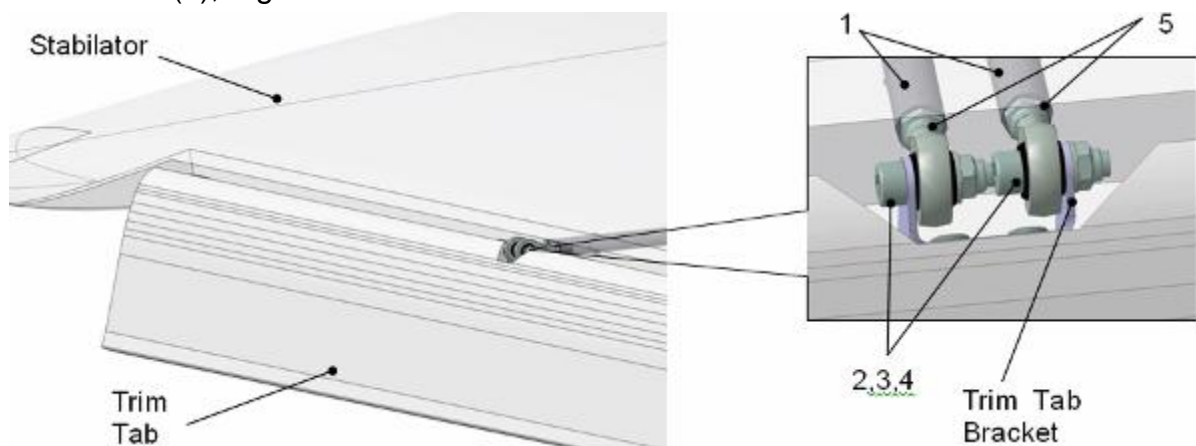
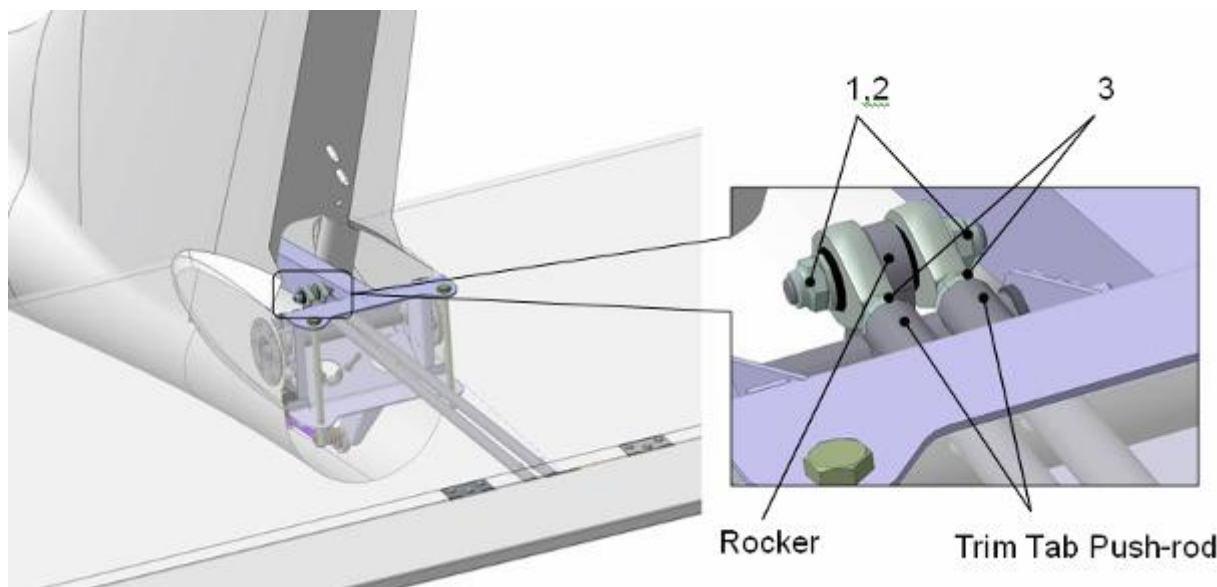

Fig. 4-16
Fig. 4-18
Put the Stabilator on saw horses, on a stands or table with soft covers, with the lower skin upwards. Deflect Trim Tab to provide access for installation of Trim Tab push-rods (1). Insert push-rods through hole in Stabilator spar wall and connect them to the Trim Tab bracket by bolts (2) with new nuts (3), Fig. 4-16.
2. Connect Trim Tab push-rods to pin of the Rocker. If required adjust the length of one of two rods. Temporarily secure rods by any nuts M5, Fig. 4-18. Install new nuts (1) instead of temporary nuts after Stabilator and Trim Tab adjustment.
4. Tight the Lock Nuts M5 of Trim Tab Push-rods (Item 5 of Fig. 4-16 and item 3 of Fig. 4-18) with torque 5.5 Nm (49lb-in).